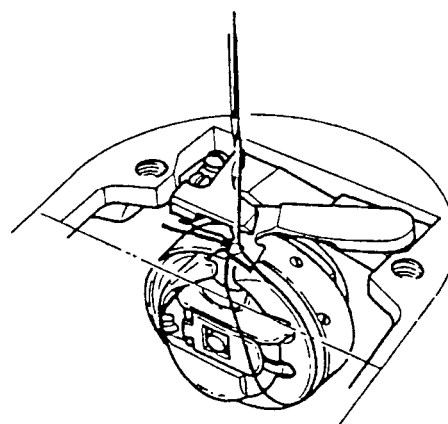
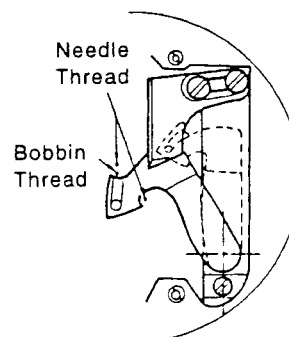

Fig. 39
Fig. 40
4. When the cam follower on the thread puller action plate slips into the recessed portion of the thread puller action cam adjusting plate, the thread puller is activated to move through the loop (Fig. 39) to a point shown in solid line in Fig. 40, and the needle and bobbin threads are positioned as shown also in Fig. 40. Simultaneously, the thread puller action plate pushes the tension release action plate making its pin ride on the tension release action cam. Immediately when the pin rides on the tension release action cam, the electronic command cuts off the current supply to the trimmer solenoid. The above motion makes the tension releasing cam rotate until just before the tension discs are released.